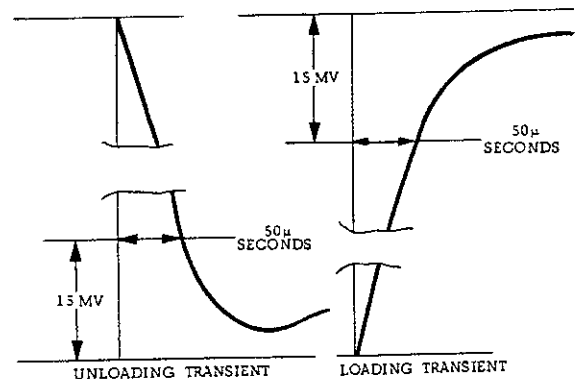

Figure 5-8. Transient Response, Waveforms
- Adjust 25K potentiometer until a stable display is obtained on oscilloscope. Waveform should be within the tolerances shown in Figure 5-8 (output should return to within 15 mv of original value in less than 50 microseconds).